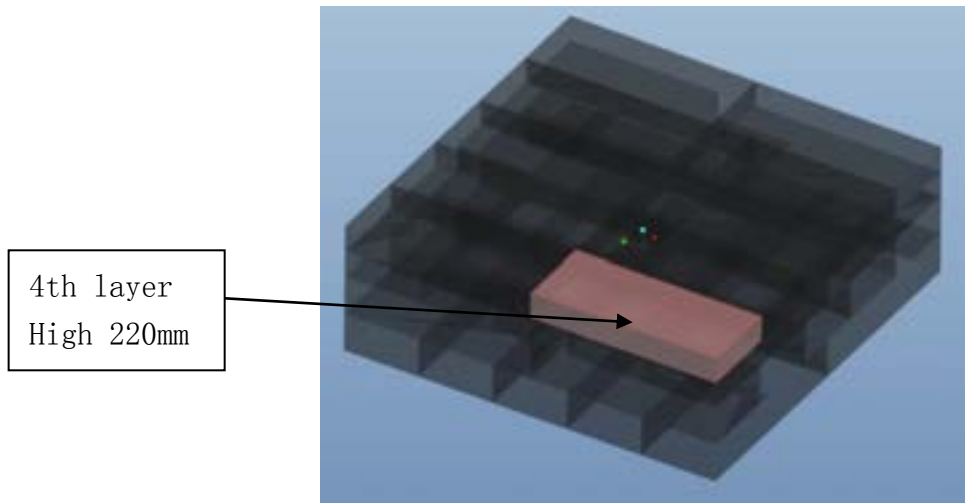

Figure 10a
- 2) Infill is combined of 4 layers with 2 different height, 220mm & 330mm. Pls follow the sequence from the bottom to the top,330mm,330mm,220mm,220mm , and **each layer of infill have to be perpendicular each other.**(see figure 10a & b)